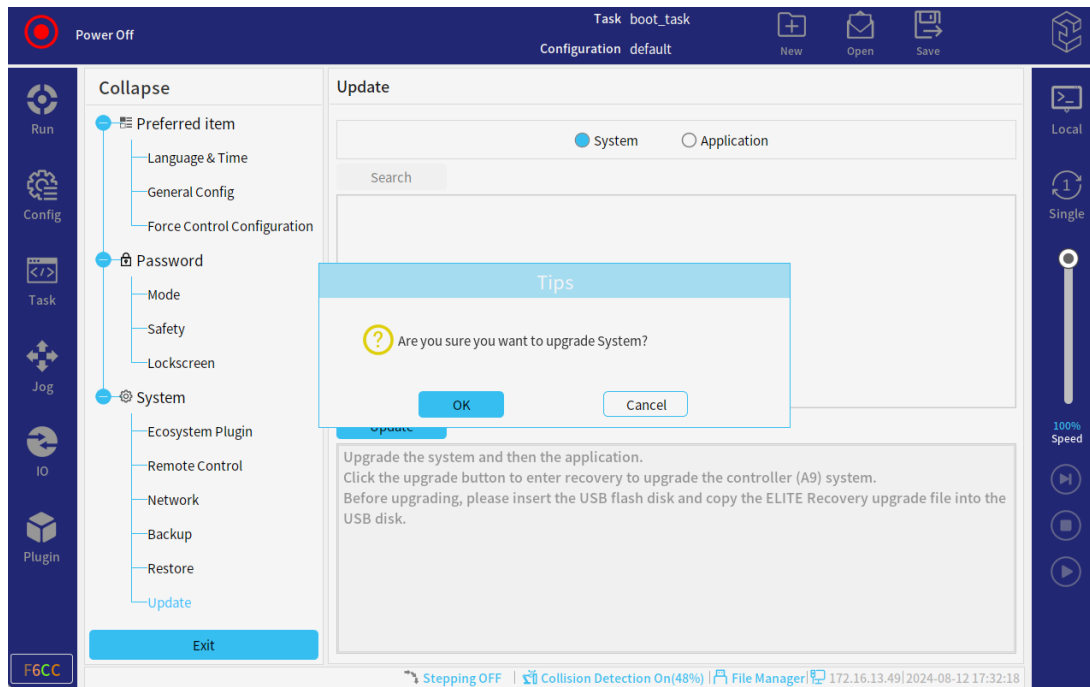

Figure 3-28 : System update
- System Update: click "Update" and "OK" under the system, as shown in **Figure 3-28**. Click the "start" button in the interface, and then select upgrade package with the suffix. .eru to upgrade the system. After the upgrade is successful, the system will restart automatically to complete the system update;